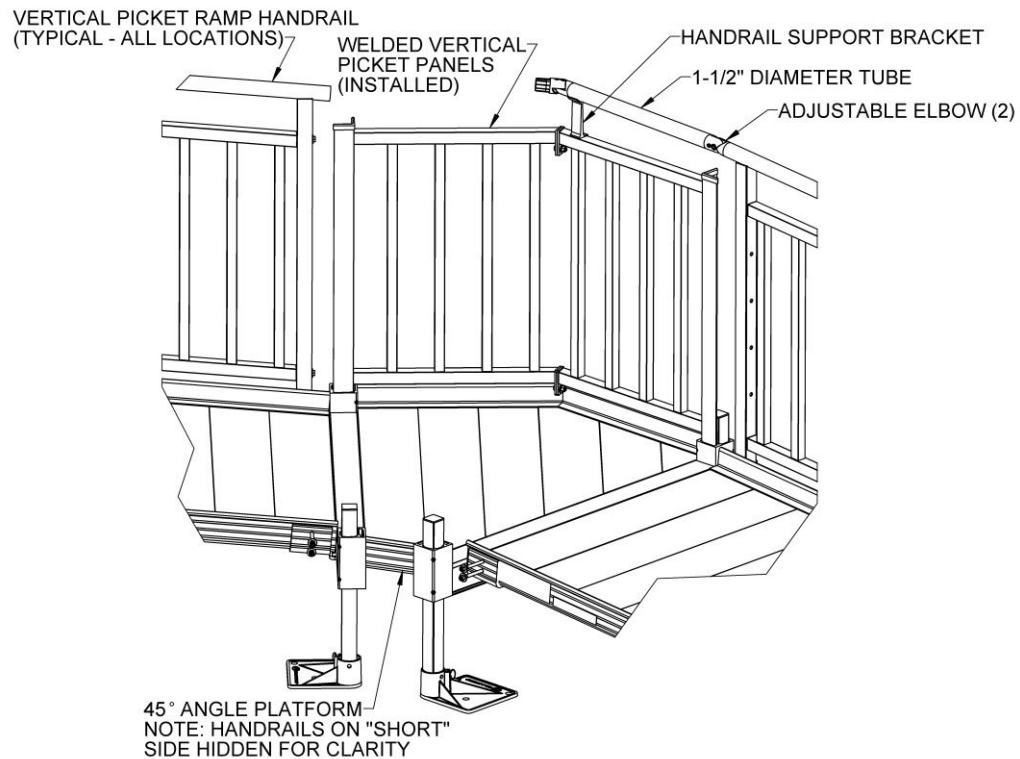

FIG. 4.21
- 4.6.21. Install an adjustable elbow in the ramp handrail closest to the right-hand Vertical Picket panel and a 1-1/2” diameter handrail tube to this elbow. Set the Handrail Support Bracket so it is centered over the picket shown and set the 1-1/2” diameter handrail tube in the saddle of the bracket (but do not attach), then trim the handrail tube so that a second adjustable elbow will align (approximately) with the split between the Vertical Picket panels (FIG. 4.21). The procedure for installing the 1-1/2” diameter handrail tubes and adjustable elbows is the same as installing the closure top rail.